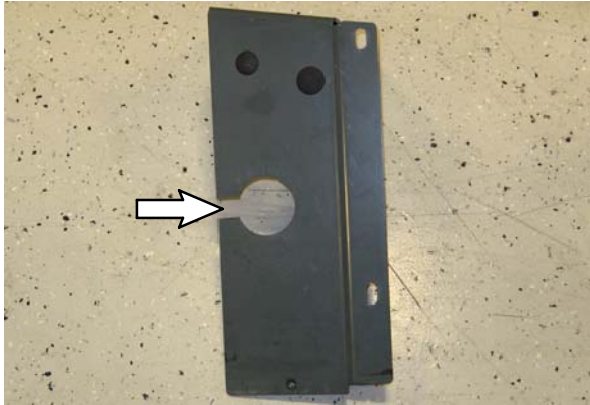

FIG. 9
49. Cut approximately 1" from the mounting bracket. Refer to Fig. 9.